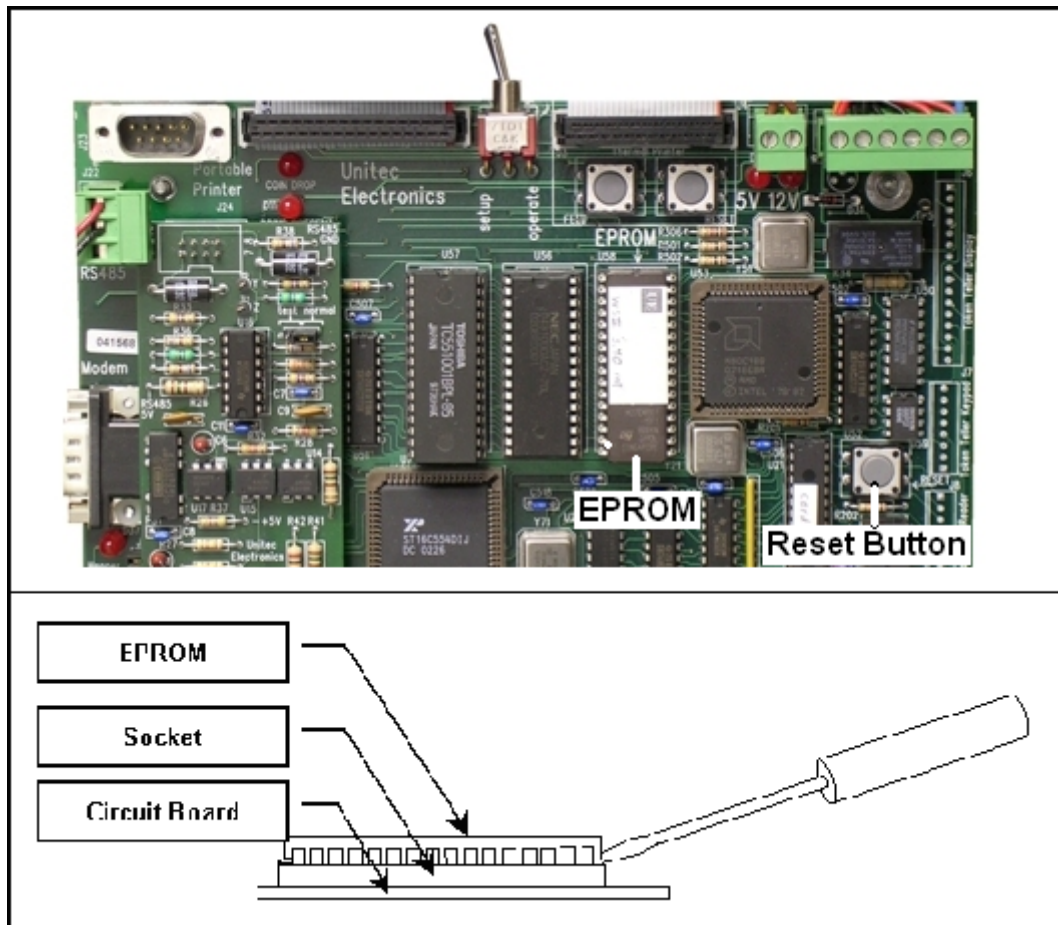

Figure 5. Locating the EPROM and Reset System Memory Button
1. Remove the existing EPROM located at connection U58 on the CPU board (see Figure 5) by inserting a small flat-blade screwdriver between the EPROM and the socket and prying it off. Be careful not to damage the socket or the circuit board.